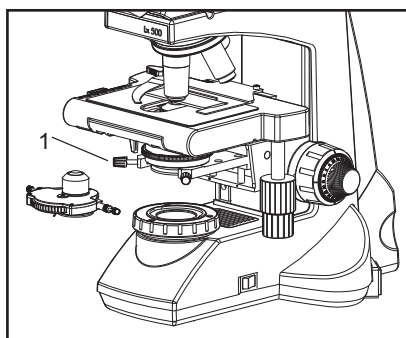

Fig 6
1. Remove the condenser from its position by loosening the two thumb screws (1) on both sides of the condenser as shown in Figure 6.